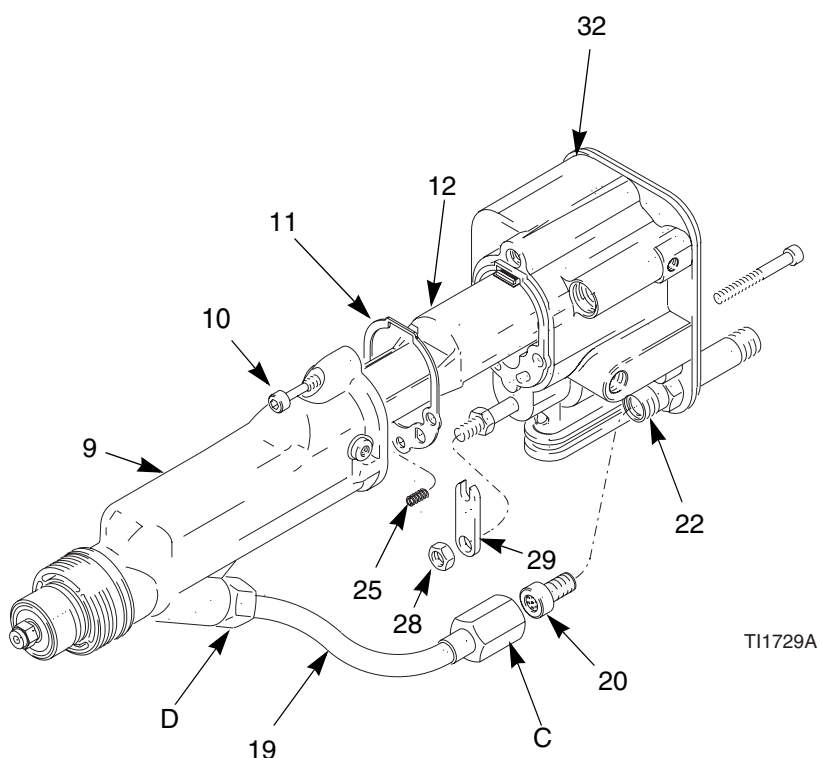

Fig. 35. Barrel Installation
1. Be sure the gasket (11) and grounding spring (25) are in place. Make sure the air holes are aligned properly. Replace if damaged. See FIG. 35..
2. Place the barrel (6) over the power supply (12) and onto the gun body (32).
4. Make sure the fluid filter (20) is in place. Tighten the bottom nut (C) onto the fitting (22) and torque to 20-30 in-lb (2.3-3.4 N•m). Make sure the top nut (D) remains tight.
5. Install and adjust the actuator arm (29) and jam nut (28). See page 43.
7. Install the gun shroud (2) and air cap, page 37.